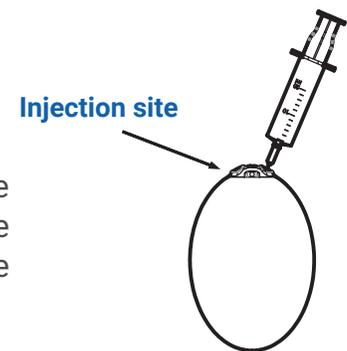

Figure 1
Step 2. Insert the needle into the injection port of the prosthesis (the circle around the suture tab) (See Figure 1)